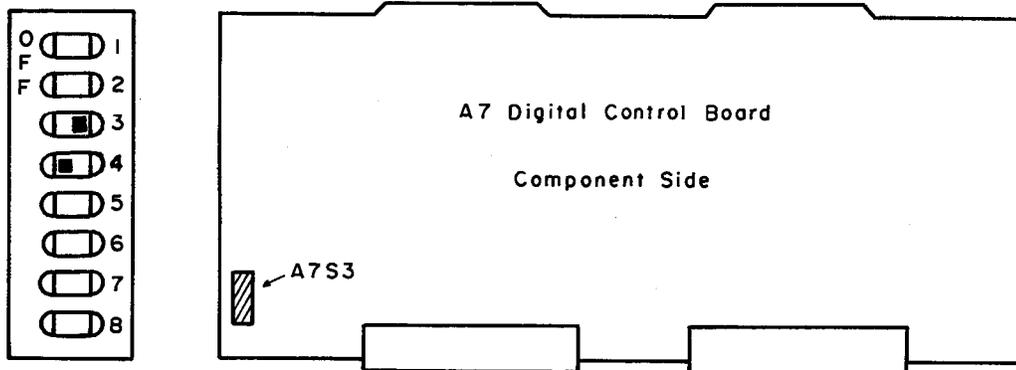

Figure 2-9. A7S3 Setting for Option 201
6. Remove the A7 board and set bits 2 and 3 of switch A7S3 (A7S3-3 and A7S3-4) as shown in Figure 2-9.